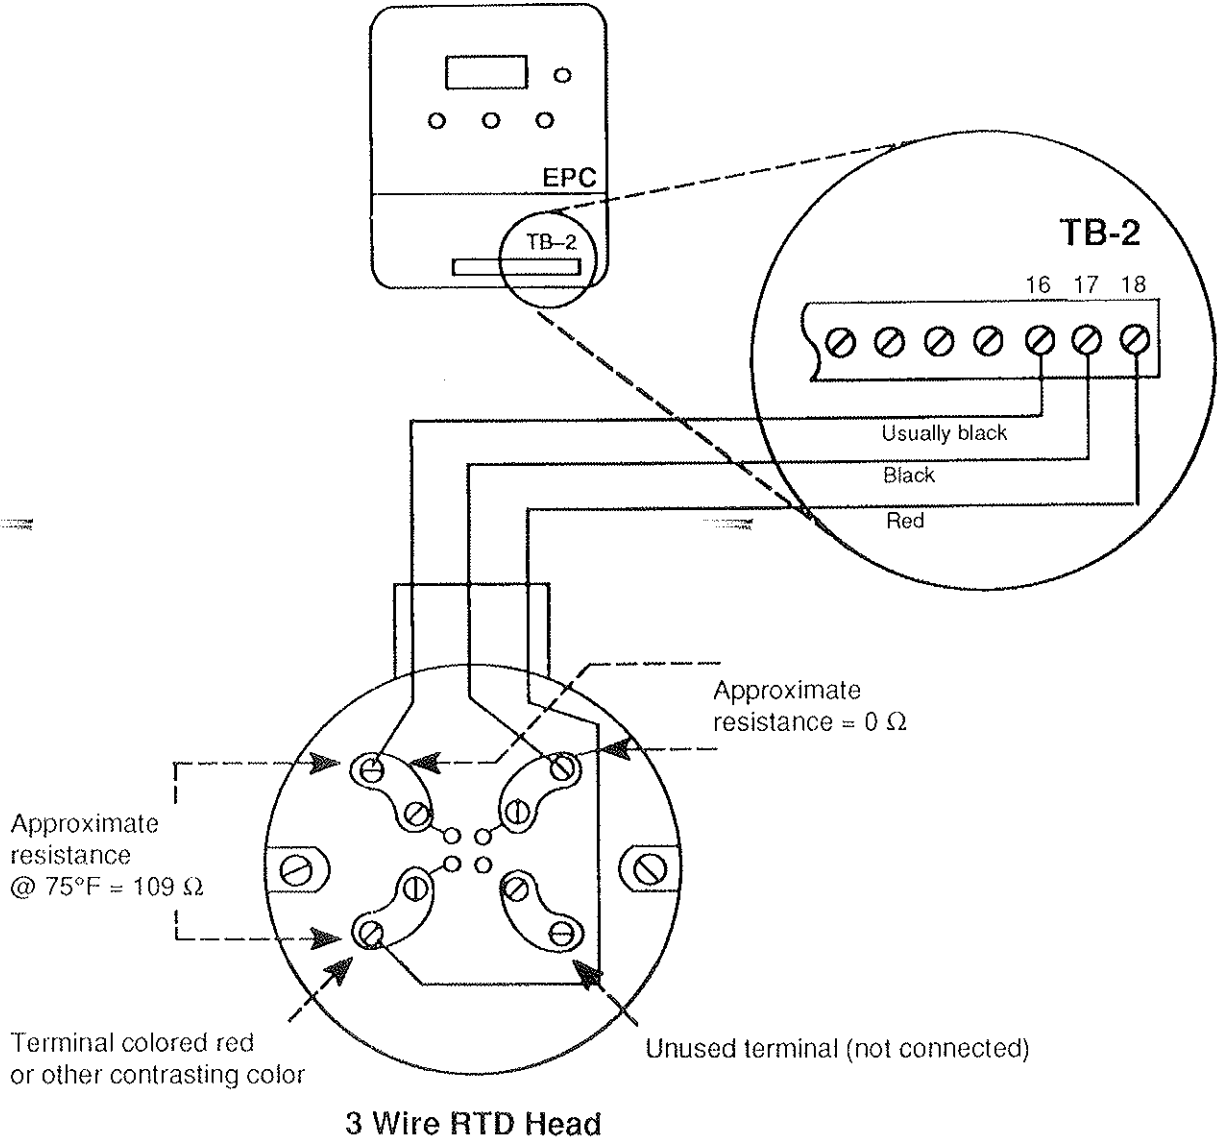
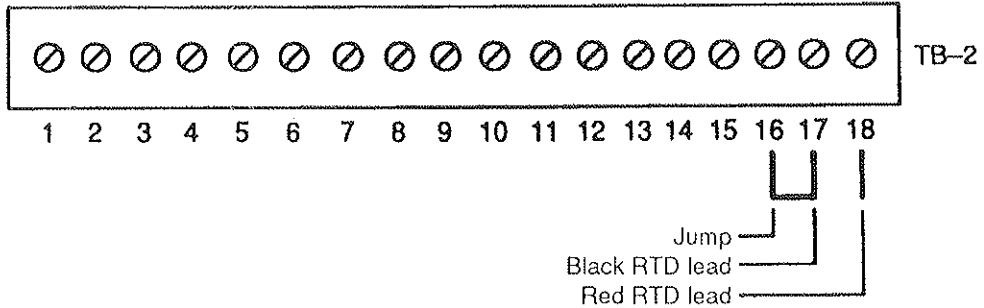

FIGURE 6
FIGURE 7
13. When the EPC is being used as a temperature controller with an RTD, an optional signal conditioning card calibrated for a temperature range suitable for the process must be installed in TB-5. For a 3 wire RTD, connect the two RTD wires that are internally connected together (zero resistance between them) to terminals 16 and 17 and the remaining connection to terminal 18 of TB-2. (See Figure 6.) For a 2 wire RTD, jump terminals 16 and 17. (See Figure 7.) See appendix C for guidelines on practical distance limitations.